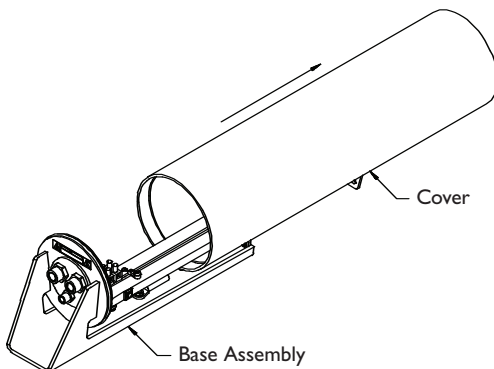

FIGURE 2 Removing the Cover
3. Remove the cover from the base assembly by grasping the cover and gently pulling forward. Do not remove the safety cable from the cover or the base assembly. See FIGURE 2.